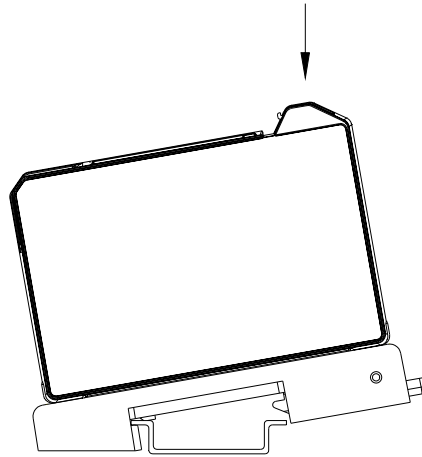

Figure 2-11: Snapping the Sensor Onto the DIN Rail
3. Push down on the Proximity Sensor as shown in Figure 2-11 until the unit “snaps” into place. The unit is now installed.